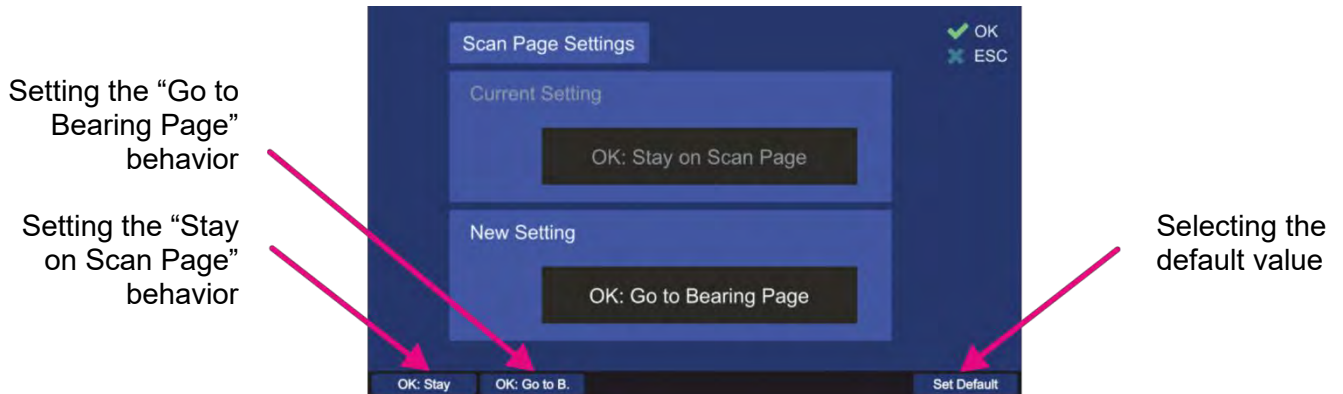

Figure 107. Scan page settings dialog
- By pressing the “OK button or hotkey “Edit Value”, while the setting “Scan Page Settings” is marked, the following dialog is opened (s. Figure 107).
- Choose the new setting using one of the hotkeys (s. Figure 107), which will then appear in the “New Setting” field.